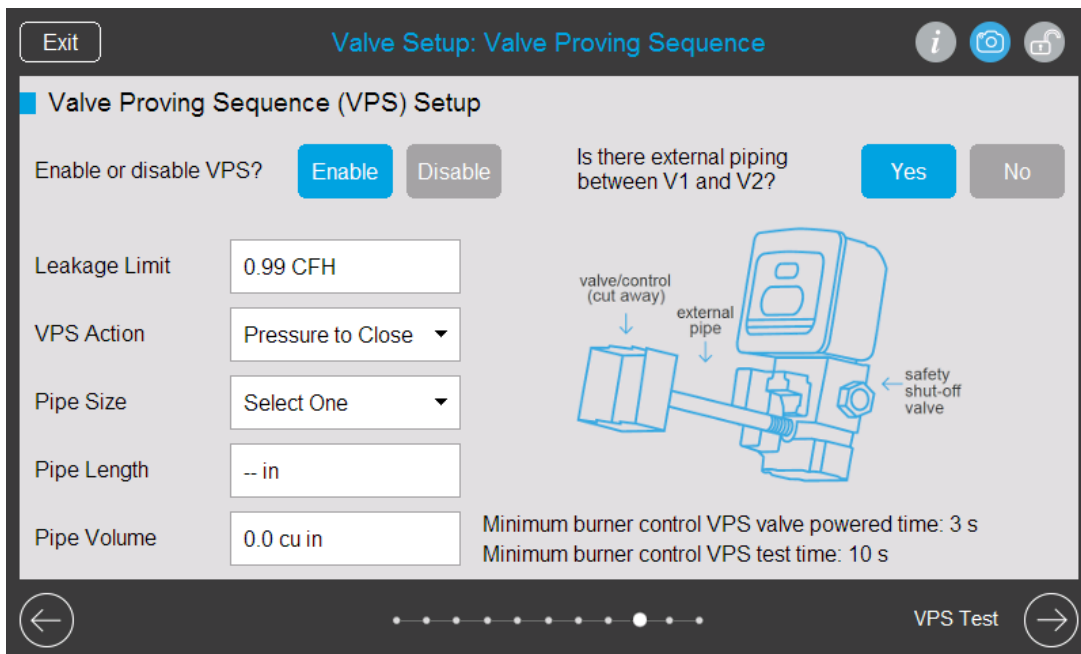
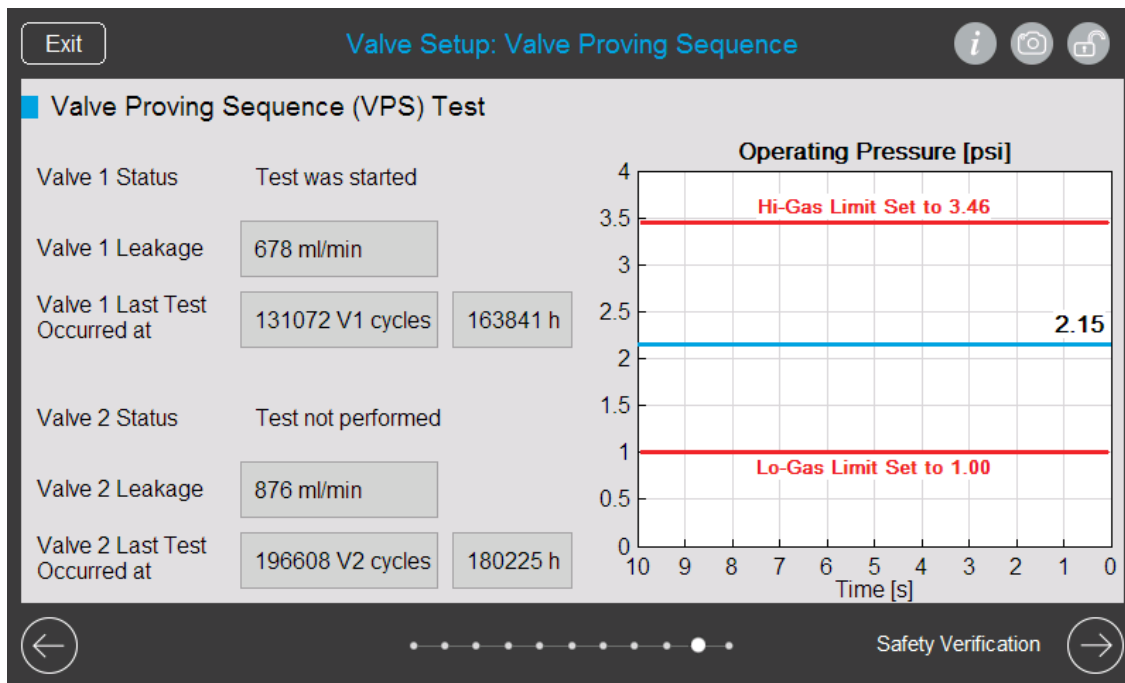

Fig. 19. Guided Valve Setup – Valve Proving Sequence (VPS).
Fig. 20. Guided Valve Setup – Valve Proving Sequence (VPS) Test.
Proceeds to the VPS Setup section. Refer to Fig. 19.
Proceeds to the VPS Test section. Refer to Fig. 20.
- Valve Proving Sequence (VPS) is conducted by an external device by selectively powering one valve seat at a time on MV1 / MV2 inputs to the SV2 Series valve. The SV2 Series valve models compatible with external VPS functionality will detect that the VPS sequence is being performed and automatically start the valve internal leak detection routine. SV2 valves use the integrated Pressure Module sensors to monitor pressure rise or decay in the volume between the two safety shut off valve seats. The readings are then compared with the user-selected Leakage Limit threshold (refer to Fig. 19). Based on that comparison, the SV2 Series valve VPS contact output is toggled as selected in the VPS Action setup (pressure to close or pressure to open). Refer to Fig. 19. The contact output action is the same as in a traditional VPS system with a separate pressure switch. Based on the VPS contact output, the external device performing VPS will determine if the VPS test passed or failed. As shown in Fig. 20, the valve leakage test results are stored in the valve memory.
Returns to the Valve Proving Sequence (VPS) Setup page. Refer to Fig. 19.
Select back arrow to navigate to the VPS Test page. Refer to Fig. 20.